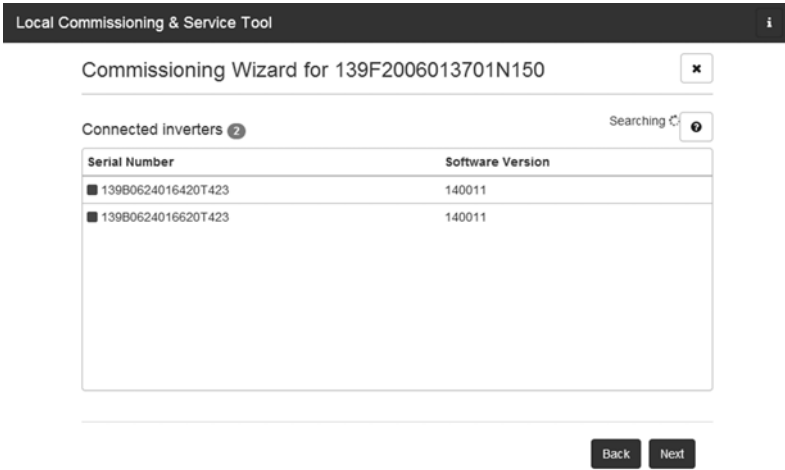

Figure 11: LCS-Tool - list of the connected inverters
- 6. A list of the identified inverters of the selected Inverter Manager is displayed (see figure 11).